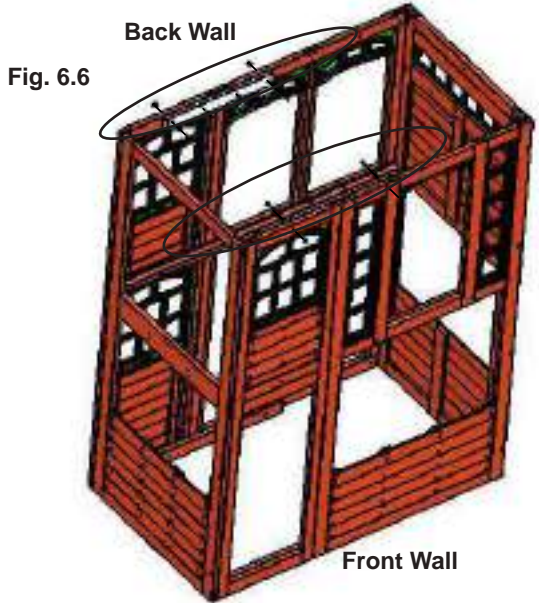

Fig. 6.6
**E:** From inside the assembly, place 1 (062) Tie centred between (041) Narrow Back Panel and (052) Back Wall Panel so it is flush to the tops of the panels and the angled ends face out then attach with 2 (H10) 1/4 x 2-1/4" Hex Bolts (with lock washer, flat washer and t-nut) and 2 (S11) #8 x 2" Wood Screws. (fig. 6.6 and 6.7)
**F:** Repeat Step E to attach 1 (062) Tie to (042) Narrow Front Panel and (051) Front Wall Panel. (fig. 6.6 and 6.7)